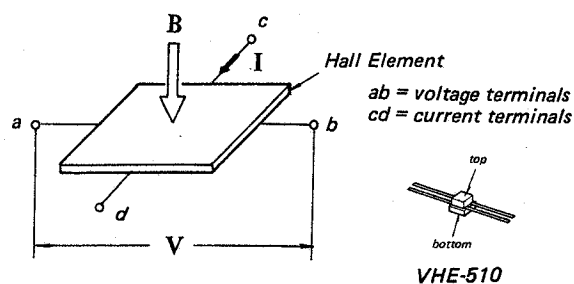

Fig. 1-1.
- * The Hall Effect: When a current I flows through a substance, and a magnetic field B is applied at right angles to the direction of current flow, a potential difference V will be generated in a direction at right angles to both the current and magnetic field. (See Fig. 1-1.)